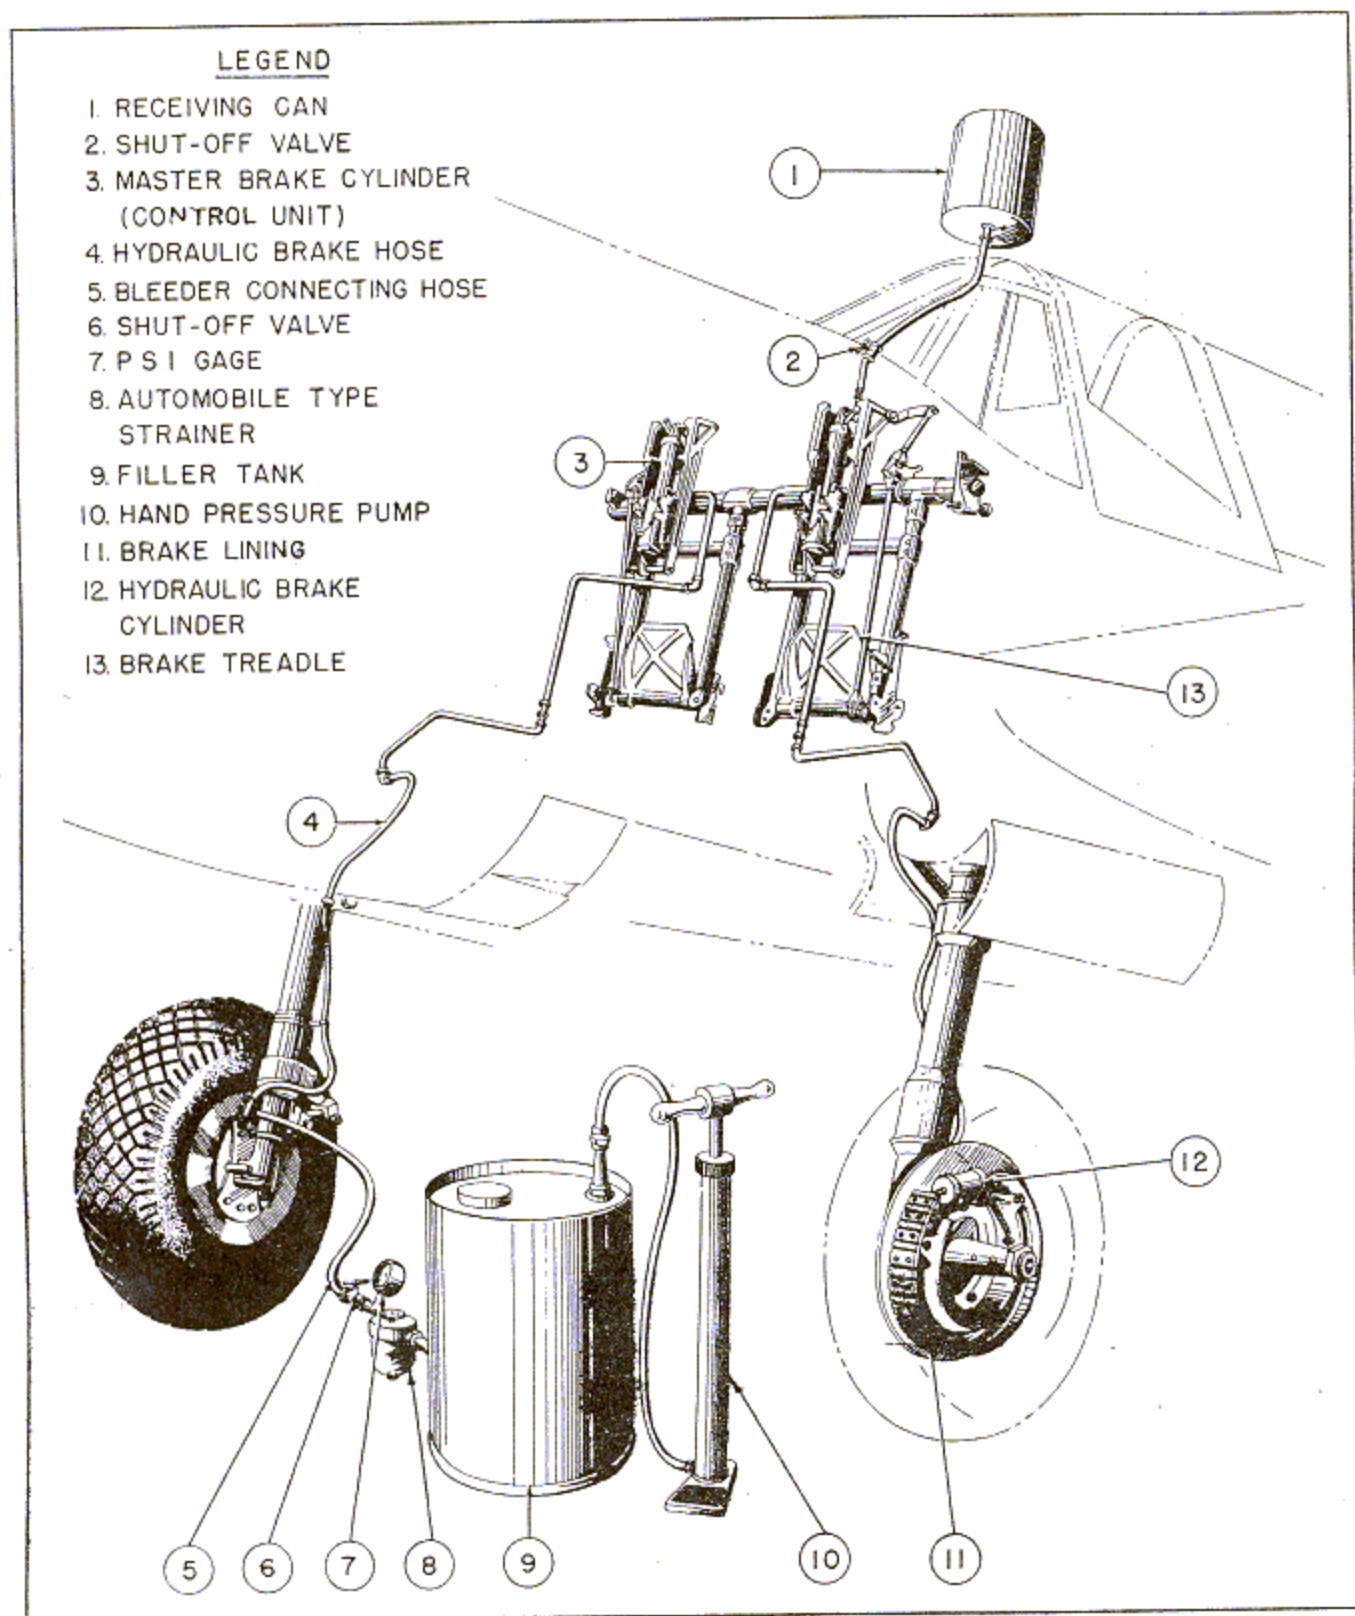

Figure 143—Method for Bleeding and Filling Brake System
(See figure 143.)
2. Prepare for gravity filling and bleeding the same as for the pressure method explained in section IV, paragraph 4. a. (8) (b).
3. Remove the vented filler plug from the control unit (Warner master brake cylinder) and attach a clean can (1) as shown on figure 143.
5. Open the brake bleeder after applying, if necessary, a sealant compound to its thread as explained in section IV, paragraph 4. a. (8) (b) 2. Connect a hose to the bleeder and put the other end into a clean jar or pan placed below the level of the bleeder.
7. To accelerate the downward flow by pumping, two men are required, one in the cockpit and one at the brake bleeder. Proceed as follows: With the bleeder open, depress the brake treadle rapidly. Close the brake bleeder before letting the brake pedal return. The treadle must be allowed to return very slowly at an even speed, in order to prevent the creation of a negative pressure in the system during the return stroke, which would suck air into the unit more readily than fluid from the can. After the treadle has returned to the complete off position, open the bleeder and repeat the operation until no more air is being expelled. Then close the bleeder permanently and continue procedure outlined in section IV, paragraphs 4. a. (8) (b) 8. through 4. a. (8) (c) 9.